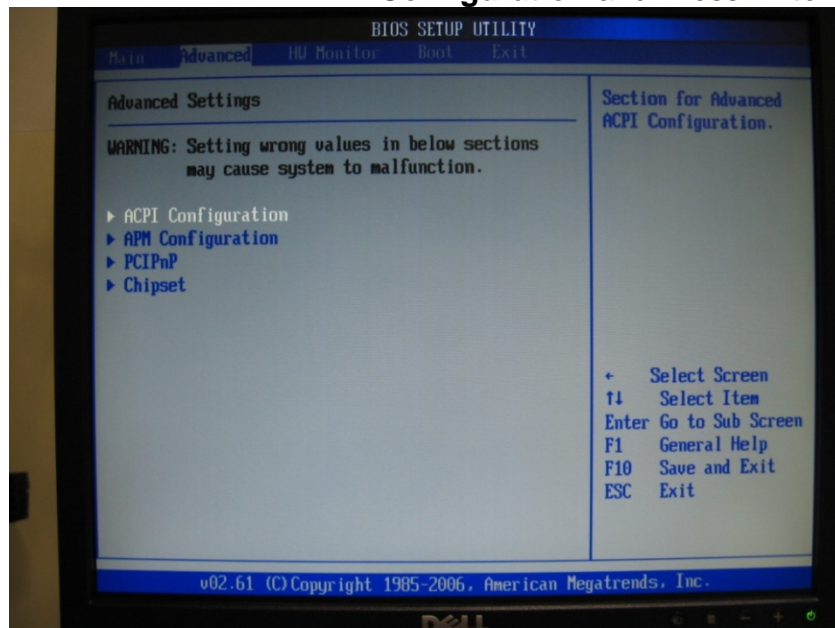

Figure 7-12 ACPI Configuration Screen
2. On the **Advanced** option select **ACPI Configuration** and Press **Enter**. (Figure 7-12).